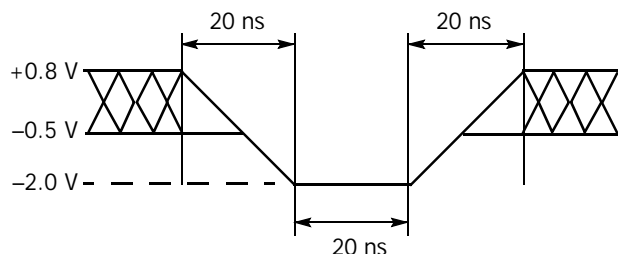
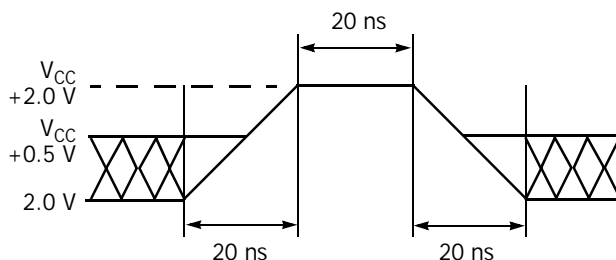

Figure 9. Maximum Negative Overshoot Waveform
Figure 10. Maximum Positive Overshoot Waveform
1. Minimum DC voltage on input or I/Os is −0.5 V. During voltage transitions, inputs or I/Os may overshoot V_{SS} to −2.0 V for periods of up to 20 ns. See Figure 9. Maximum DC voltage on input or I/Os is V_{CC} + 0.5 V. During voltage transitions, input or I/O pins may overshoot to V_{CC} + 2.0 V for periods up to 20 ns. See Figure 10.
2. Minimum DC input voltage on pins A9, OE#, ACC, and RESET# is −0.5 V. During voltage transitions, A9, OE#, ACC, and RESET# may overshoot V_{SS} to −2.0 V for periods of up to 20 ns. See Figure 9. Maximum DC input voltage on pin A9, OE#, ACC, and RESET# is +12.5 V which may overshoot to +14.0V for periods up to 20 ns.